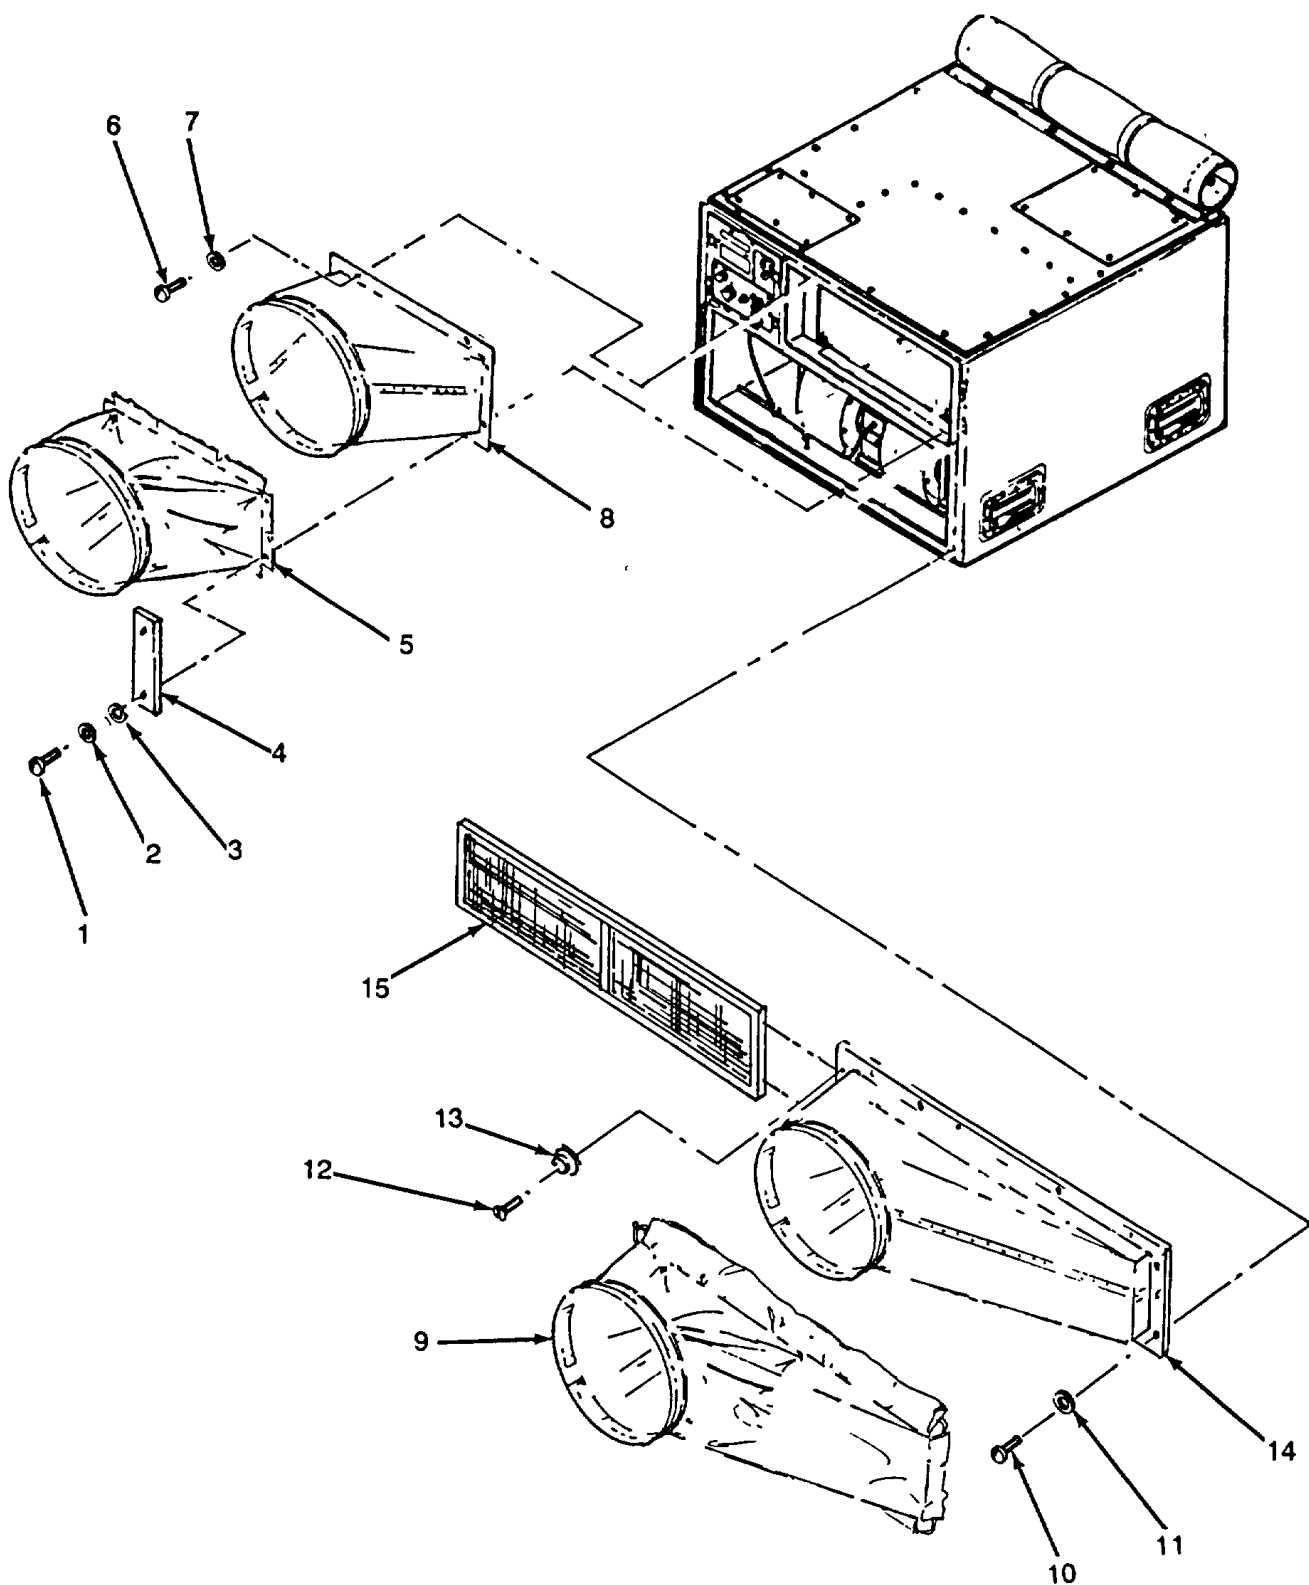

Figure 4-14. Adapters, Supply and Return Duct.
**4-23. ADAPTER, SUPPLY AND RETURN DUCT (Figure 4-14).**